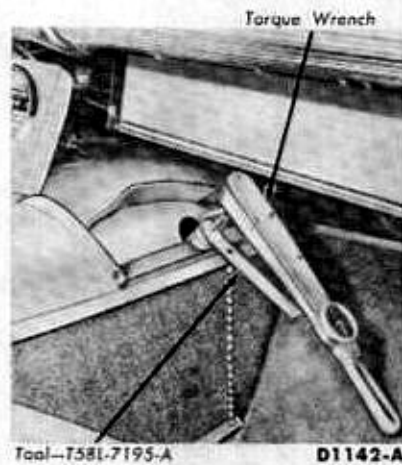

FIG. 9—Rear Band Adjustment
1. Remove the front console (Fig. 9) to expose the access hole, and then remove the cover from the hole.